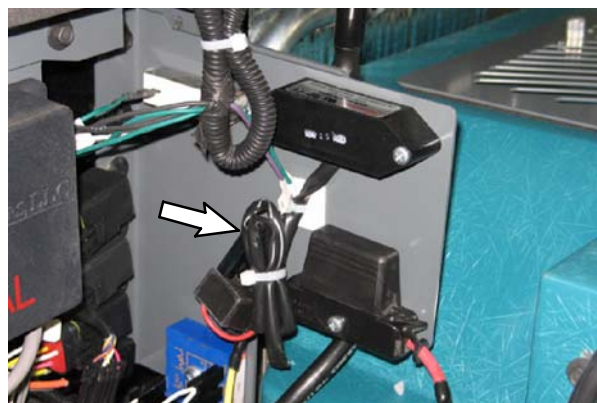

FIG. 19
29. Neatly bundle excess backup harness (1) connected to the flasher (6) and secure the bundle with a cable tie (11). Refer to Fig. 19.